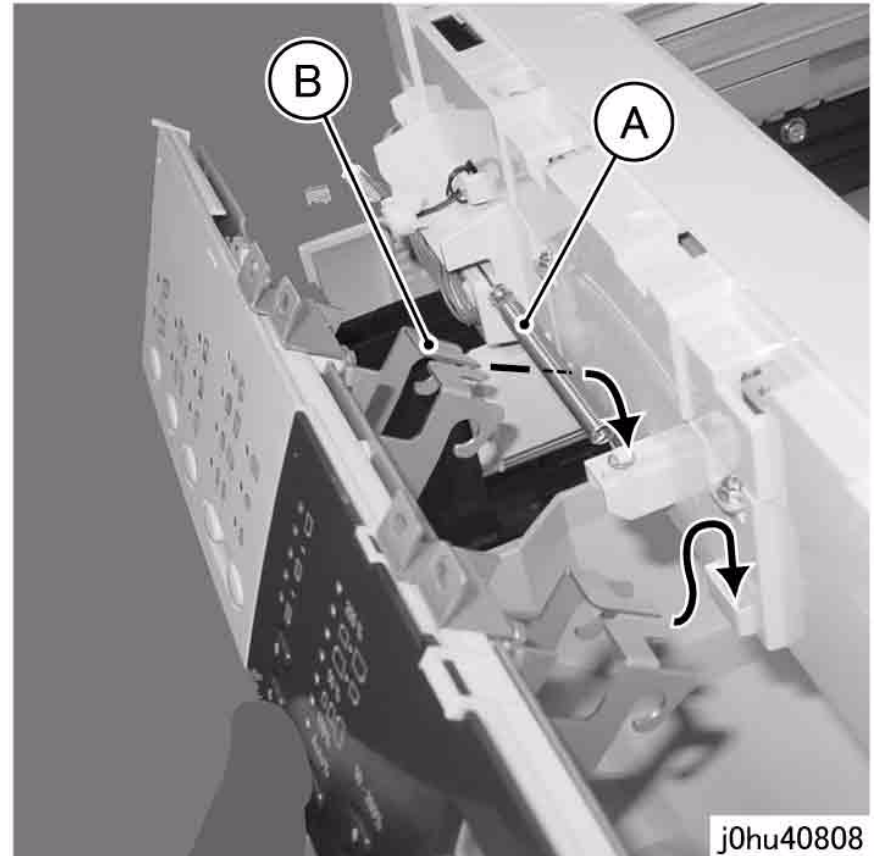

Figure 4 Install Control Panel
5. Remove the Cable Band from the Control Panel Hook (Figure 4, B).
2. When installing the Control Panel, attach the Control Panel hooks (3) to the IIT Frame (Figure 4).
- (A) Spring - On top
- (B) Hook - Below